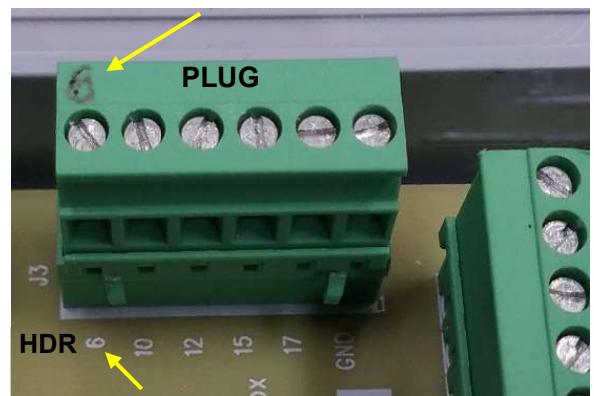

FIGURE 102
□ **STEP 9.14** Locate the two 6-position plug connectors (1702) and one 8-position plug connector (1703) which were shipped inside the JBOX. Insert each plug loosely into their respective connector header (HDR). Mark a 6 on TOP END of each of 3 plugs that aligns with the 6-meter position of the PCB header. (**FIG. 102**)